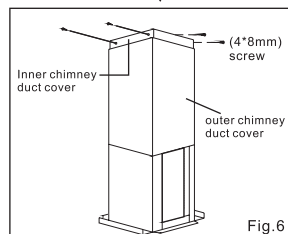

Fig.6
8. Slide the chimney duct cover into the telescopic stack then push out the inner chimney duct cover to top of telescopic stack fastened by 4 (4x8mm) screws provided. (Fig. 6)